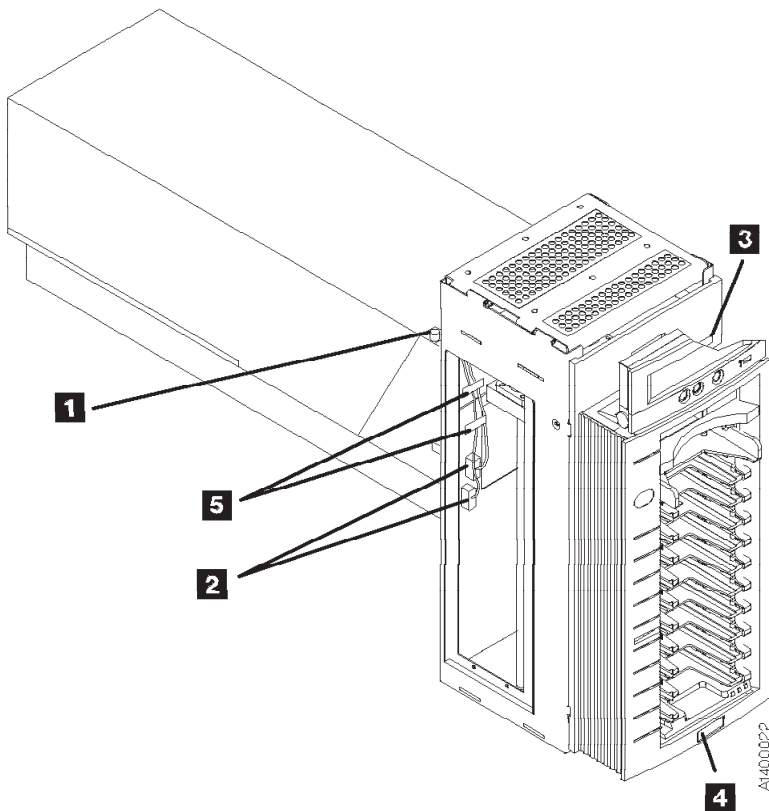

Figure 8-12. ACF Thumbscrew and Cables
- ___ 5. See Figure 8-12 on page 8-20. Tighten the thumbscrew **1** on the upper left tab of the ACF into the deck enclosure.
- ___ 7. See Figure 8-12 on page 8-20. Connect the two cable connectors **2** from the ACF to the drive.